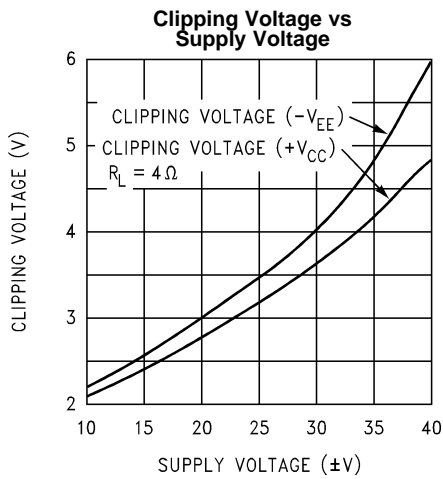

Figure 14.
- (1) All voltages are measured with respect to the GND pin (pin 7), unless otherwise specified.
- (2) Absolute Maximum Ratings indicate limits beyond which damage to the device may occur. Operating Ratings indicate conditions for which the device is functional. Electrical Characteristics state DC and AC electrical specifications under particular test conditions and specific performance limits. This assumes that the device is within the Operating Ratings. The typical value is a good indication of device performance.
- (3) Typical values are measured at  $25^\circ C$  and represent the parametric norm.
- (4) Limits are specified to AOQL (Average Outgoing Quality Level).
- (5)  $V^-$  must have at least  $-9V$  at its pin with reference to ground in order for the under-voltage protection circuitry to be disabled.
- (6) AC Electrical Test; refer to Test Circuit #2 - AC Electrical Test Circuit.
- (7) The feedback compensation network limits the bandwidth of the closed-loop response and so the slew rate will be reduced due to the high frequency roll-off. Without feedback compensation, the slew rate is typically larger.
- (8) DC Electrical Test; refer to Test Circuit #1- DC Electrical Test Circuit.
- (9) The output dropout voltage is the supply voltage minus the clipping voltage. Refer to Figure 14 in Typical Performance Characteristics.